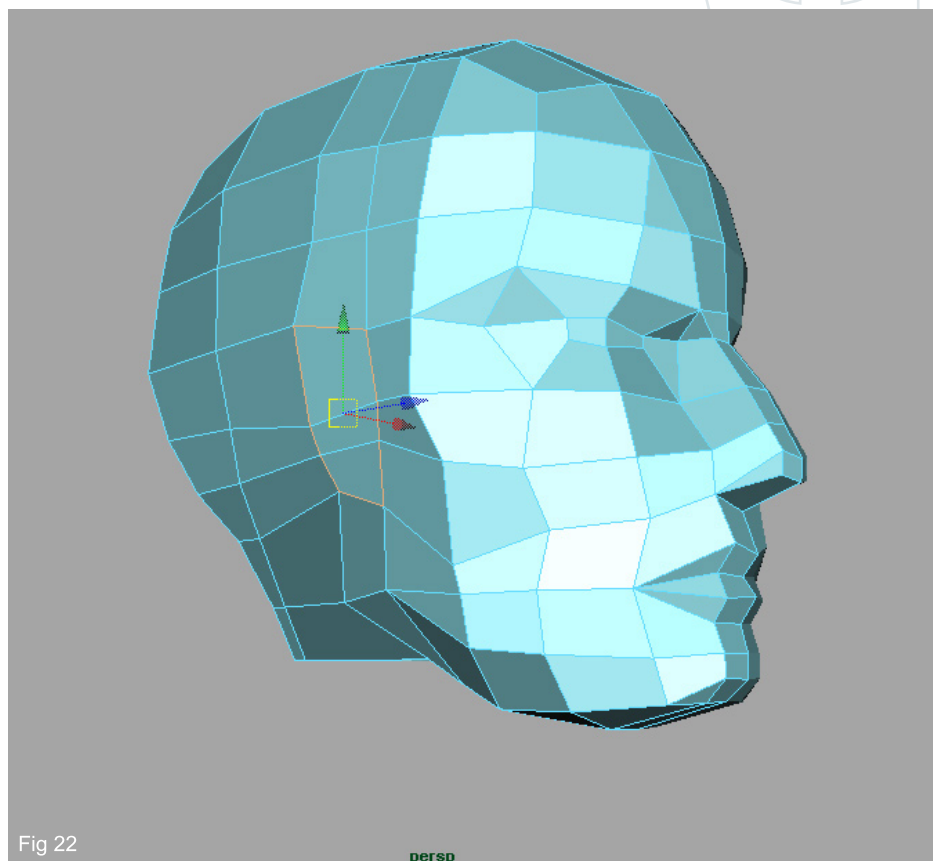

Fig 22
22. Ears are a rather luxurious commodity on low poly models, so for this guy we're going to keep things real simple. Start by setting up the highlighted edges into a fairly basic ear shape. (Fig 22)